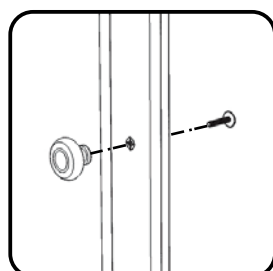

Figure 7
Attach Knobs to Doors (L) and (M) with Machine Screws. (See Figure 7)